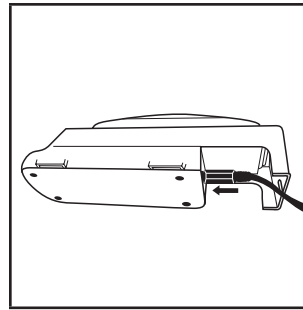

Fig. 1 – Single-station charger setup
- 3M™ Single Station Battery Charger TR-641N: Insert the TR-941N's DC supply cord into the cradle (Fig. 1). Plug the power cord into an AC power source (100-240V).